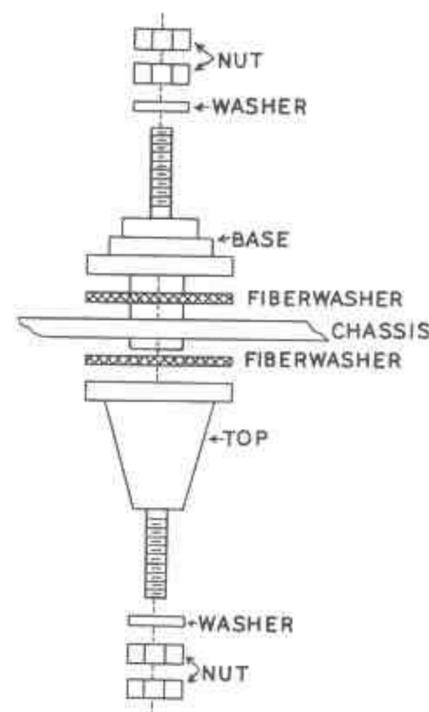

Figure 2
- (✓) The two final tank coil feed-through insulators are mounted in the 5/16" holes on each side of the 2-gang 420 $\mu\mu\text{f}$ capacitor. See Pictorial 1. Be sure to mount them with fiber compression washers on each side of the chassis to avoid breaking. See Figure 2. Put the long end of the insulator on top of the chassis. Place the flat metal washers next to the ceramic instead of between the nuts as supplied. Do not overtighten.